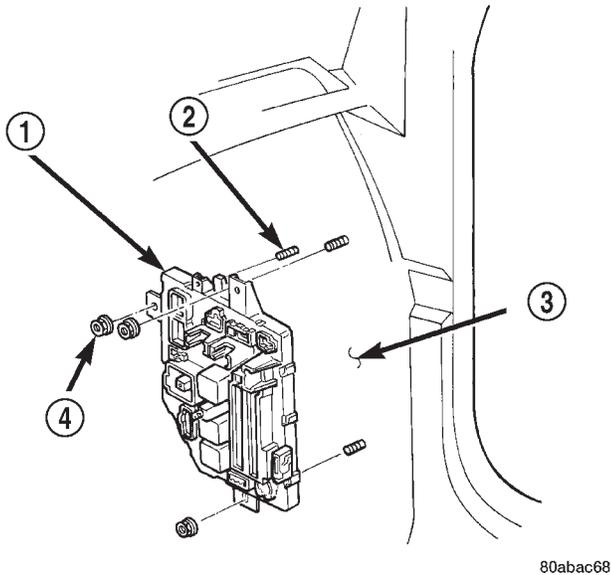

Fig. 9 Junction Block Remove/Install
(9) Remove the three nuts that secure the JB to the mounting studs on the right cowl side inner panel (Fig. 9).